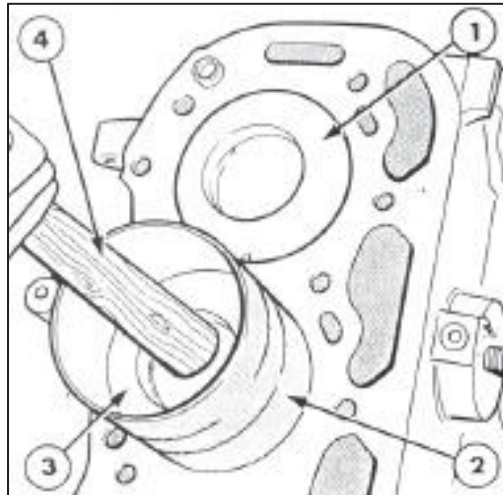

Fig. C2.18
6. Install the piston assembly into the cylinder by using a ring compressor as shown in the Fig. C2.18